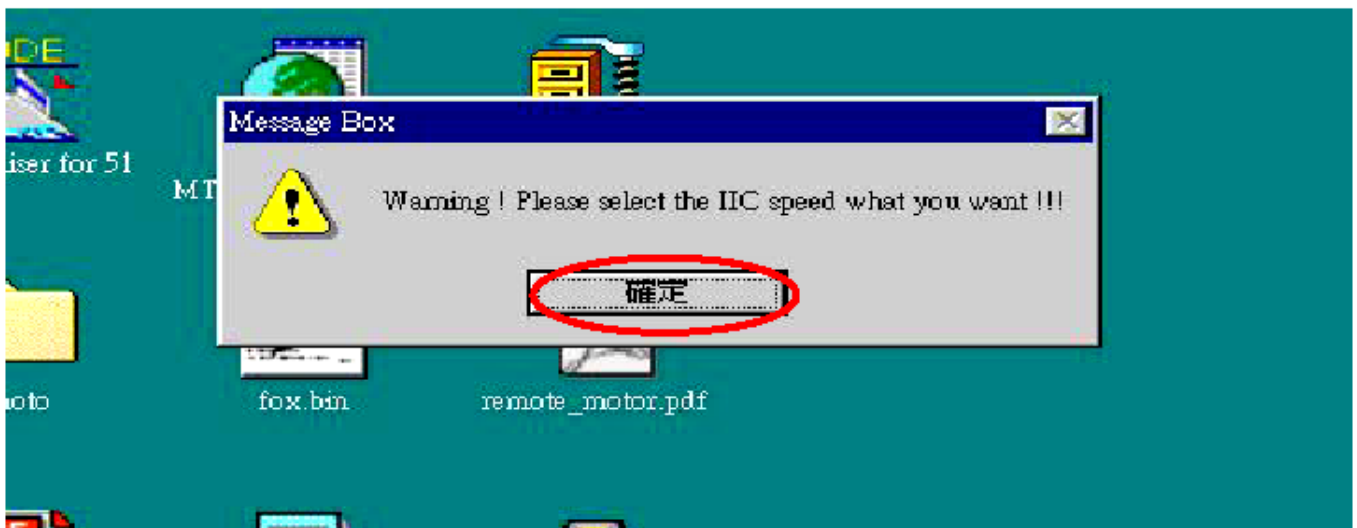

Fig 3.3
3.3 The warning is used to remind user of that different CPU rate may cause ISP function fail(it is limited by IIC protocol), press “確定” button, see Fig 3.3.